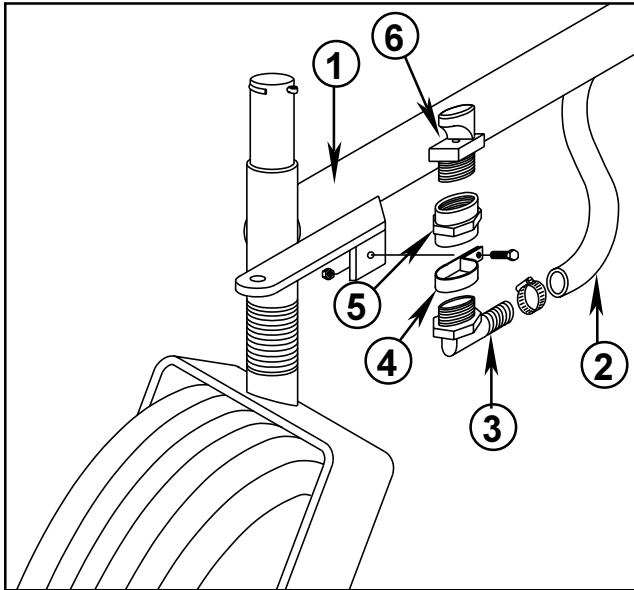

FIG. 18
1. Assemble the Rinseate Nozzle Mounting Bracket on to the Left Castor Mount of the Center Boom as per FIG. 18. Assemble the Rinseate Nozzle, 1/2" Female Pipe Coupling and 1/2" 90° Male Hose Coupling included with the Enclosed Boom Mounting Kit. (refer to the Single Nozzle Assembly in the INJECTOR-PRO™ SYSTEM PARTS MANUAL). Mount Nozzle Assembly onto Mounting Bracket using (1) R-Clamp and 1/4" x 3/4" hex hd. cap screw, flat washer, lock washer and nut.